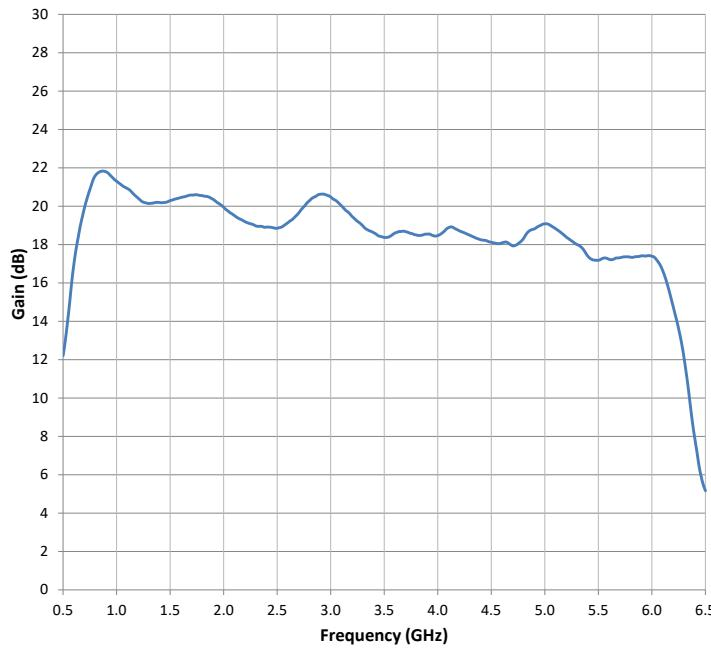

Figure 4-3. Typical Response: Input A3 Front Panel RF Output
2. Remove the coaxial cable from the output of the K1 connector to the input of the A3 Four-Way Splitter. The typical response from the input of the A3 Four-Way Splitter to the RF Output connector on the unit's front panel is shown in Figure 4-3.